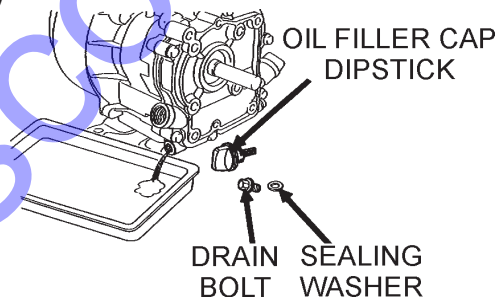

Figure 20. Engine Oil (Draining)
- Drain the engine oil when the oil is **warm** as shown in Figure 20.
- Tap the paper filter element (Figure 20) several times on a hard surface to remove dirt, or blow compressed air [not exceeding 30 psi (207 kPa, 2.1 kgf/cm2)] through the filter element from the air cleaner case side. **NEVER** brush off dirt. Brushing will force dirt into the fibers. Replace the paper filter element if it is excessively dirty.